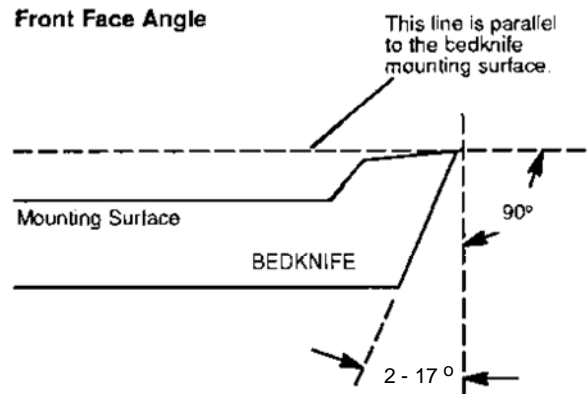

FIG. 45
**NOTE:** There is usually a 2 - 17 degree bevel clearance ground into the front face. See FIG. 45. Refer to the mower manufacturer's specifications for the correct bevel clearance for the bedknife model, and for the reference plane to measure from.